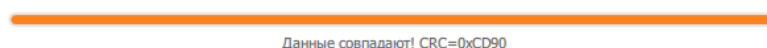

Figure 6. CRC of the memory data
3. The result will be displayed below the current progress status bar. The CRC of the memory data will be displayed too (fig. 6).